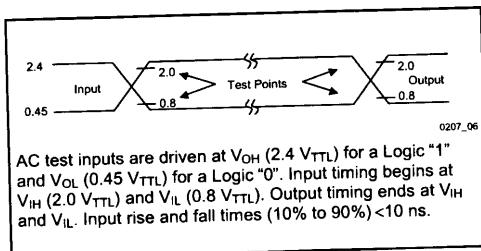
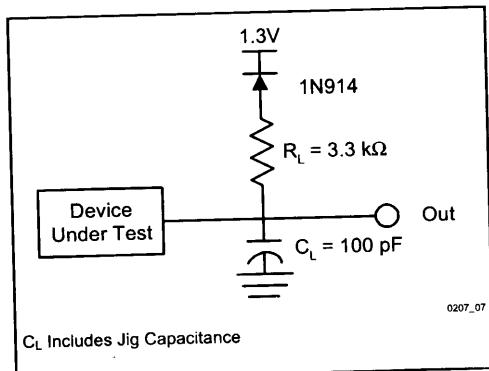

Figure 6. Testing Input/Output Waveform
Figure 7. AC Testing Load Circuit
5. See *Testing Input/Output Waveform* (Figure 6) and *AC Testing Load Circuit* (Figure 7) for testing characteristics.
4. See Testing Input/Output Waveform (Figure 6) and AC Testing Load Circuit (Figure 7) for testing characteristics.